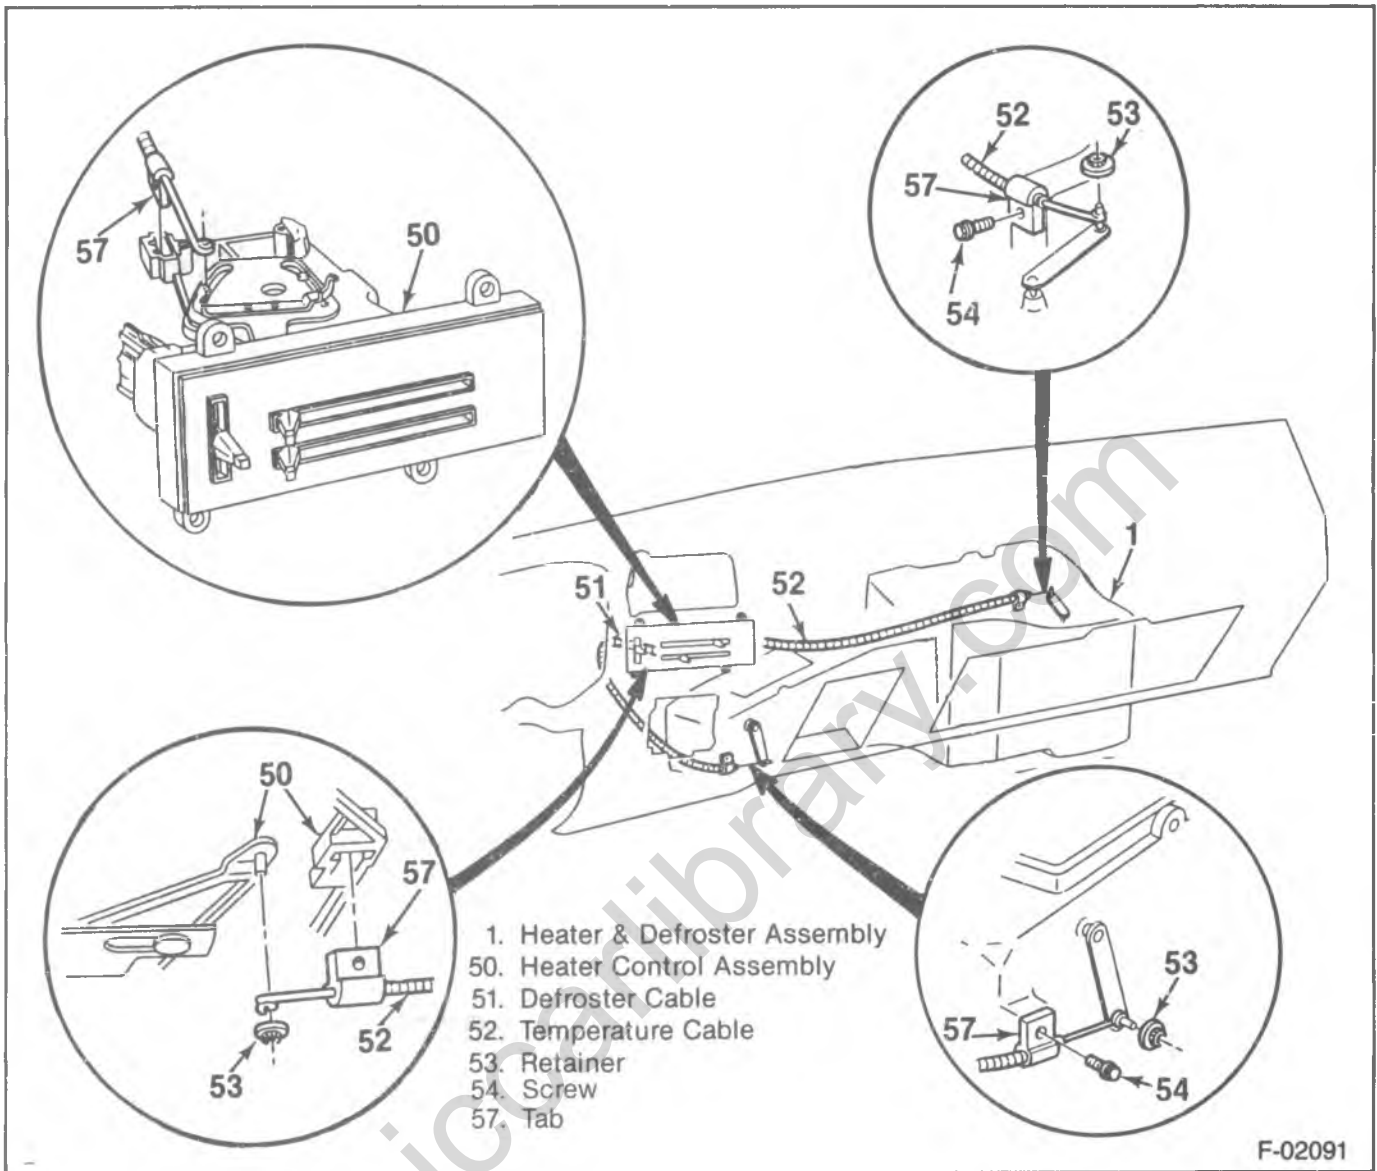

Figure 13—Control Assembly and Cables
5. Defroster (51) and temperature cables (52) (figure 13).
6. Floor outlet (37).
←→ Remove or Disconnect (Figure 13)
→← Install or Connect (Figures 13)
↔ Remove or Disconnect (Figure 13)
↔ Install or Connect (Figures 13)
Remove or Disconnect (Figure 13)
Install or Connect (Figure 13)